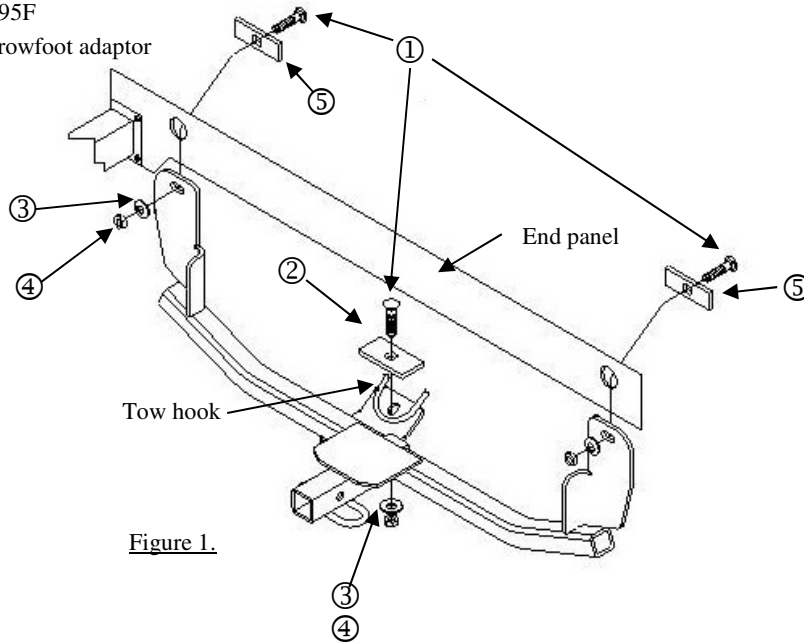

Figure 1.
①	Qty. (3)	Carriage bolt 1/2-13 x 1.75 GR5	④	Qty. (3)	Hex nut 1/2-13
②	Qty. (1)	Spacer	⑤	Qty. (2)	Spacer
③	Qty. (3)	Conical washer	⑥	Qty. (1)	1/2" Pull wire
1. Place carriage bolt and spacer onto tow hook. As shown Figure 1.